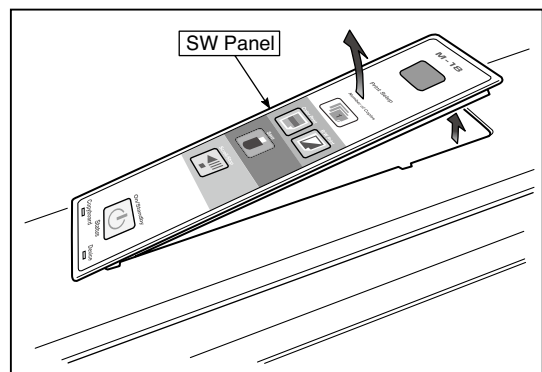

Fig.15
- 2.Remove the SW Panel shown in the figure15.